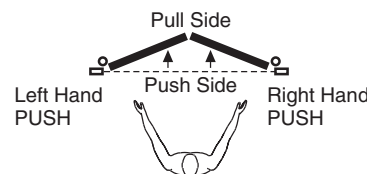

Figure 14
2. Determine if push or pull and if left hand or right hand installation. (Figure 14)